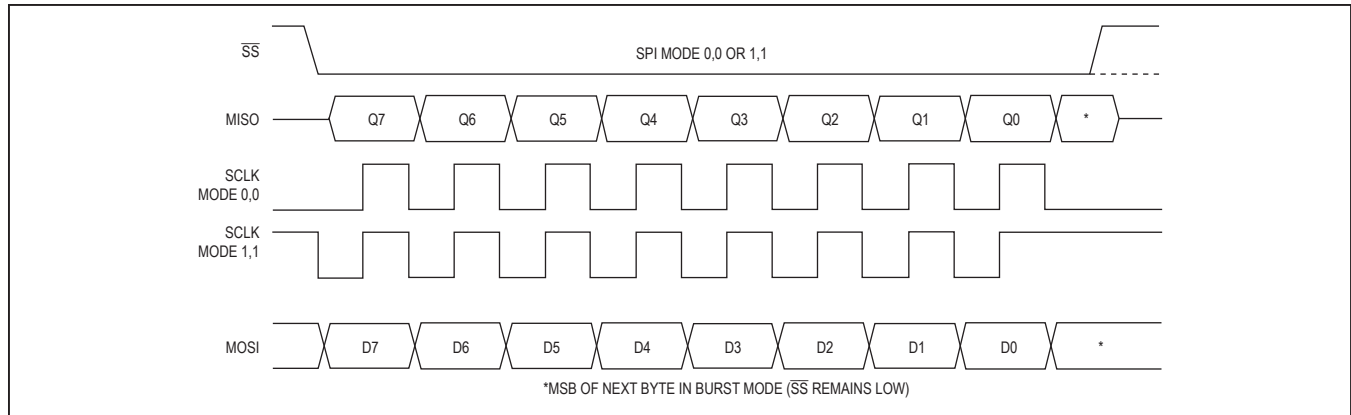

Figure 14. SPI Clocking Modes
The SPI master provides the MAX3420E SCLK signal to clock the SPI interface. SCLK has no low-frequency limit, and can be as high as 26MHz. The MAX3420E changes its output data (MISO) on the falling edge of SCLK and samples input data (MOSI) on the rising edge of SCLK. The MAX3420E ignores SCLK transitions when $\overline{SS}$ is high. The inactive level of SCLK may be low or high, depending on the SPI operating mode (Figure 14).
The MAX3420E SPI interface operates without adjustment in either SPI mode (CPOL = 0, CPHA = 0) or (CPOL = 1, CPHA = 1). No mode bit is required to select between the two modes since the interface uses the rising edge of the clock in both modes. The two clocking modes are illustrated in Figure 14. Note that the inactive SCLK value is different for the two modes. Figure 14 illustrates the full-duplex mode, where data is simultaneously clocked into and out of the MAX3420E.
- (1) When $\overline{SS}$ is high, the MAX3420E is unselected and three-states the MISO output.
- (2) After driving SCLK to its inactive state, the SPI master selects the MAX3420E by driving $\overline{SS}$ low. The MAX3420E turns on its MISO output buffer and places the first data bit (Q7) on the MISO output (Figure 14).
- (3) The SPI master simultaneously clocks the command byte into the MAX3420E MOSI pin, and USB status bits out of the MAX3420E MISO pin on the rising edges of the SCLK it supplies. The MAX3420E changes its MISO output data on the falling-edges of SCLK.
- (4) After eight clock cycles, the master can drive $\overline{SS}$ high to deselect the MAX3420E, causing it to three-state its MISO output. The falling edge of the clock puts the MSB of the next data byte in the sequence on the MISO output (Figure 14).
- (5) By keeping $\overline{SS}$ low, the master clocks register data bytes out of the MAX3420E by continuing to supply SCLK pulses (burst mode). The master terminates the transfer by driving $\overline{SS}$ high. The master must ensure that SCLK is in its inactive state at the beginning of the next access (when it drives $\overline{SS}$ low). In full-duplex mode, the MAX3420E ignores data on MOSI while clocking data out on MISO.